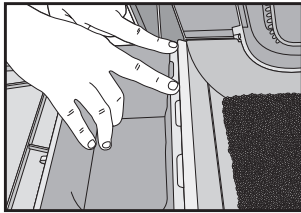
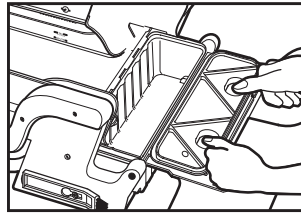

Fig. 1
Fig. 2
- Place a Disposable Waste Receptacle under the Waste Receptacle Compartment Cover. Make sure that the front of the Waste Receptacle is under the five tabs (Fig. 1). There should be no gap between the unit and the Waste Receptacle. Attach the Waste Receptacle Lid by inserting the pushtabs into the round holes (Fig. 2).